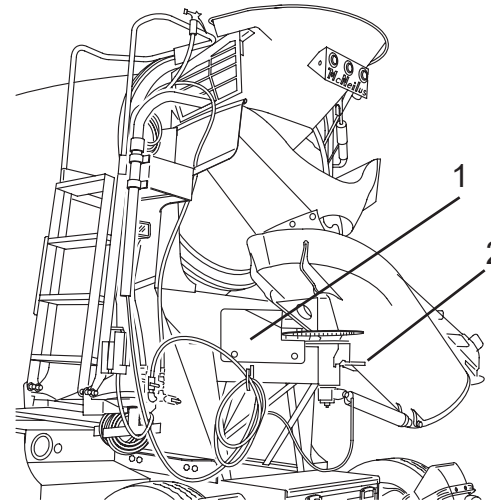

Figure 118
The hydraulic chute swing option (Figure 118, Item 1) allows the operator to move the discharge chute from the rear pendant.
1. Release the manual chute lock (Figure 118, Item 2).